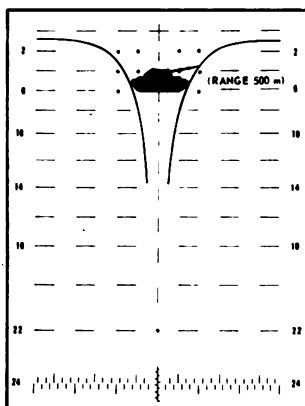

Figure 1.
(1) Tank is broadside to the rifle location (figure 1).